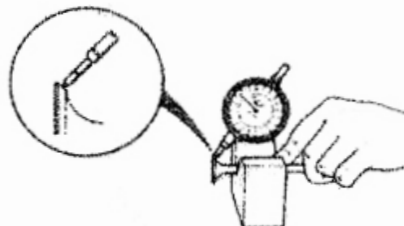

Fig. 3-64
- Check each valve for radial runout with a dial gauge and "V" block, as shown in Fig. 3-64. The object of this check is to determine whether the valve stem is concentric relative to the head.